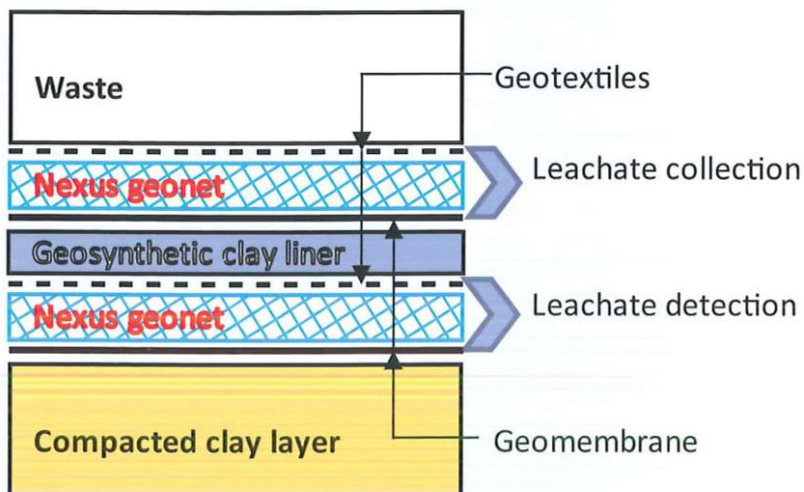

Fig 4-Typical leachate collection and removal system
1. Leachate collection and removal system (Fig.4).
2. Leachate detection system (Fig.4).